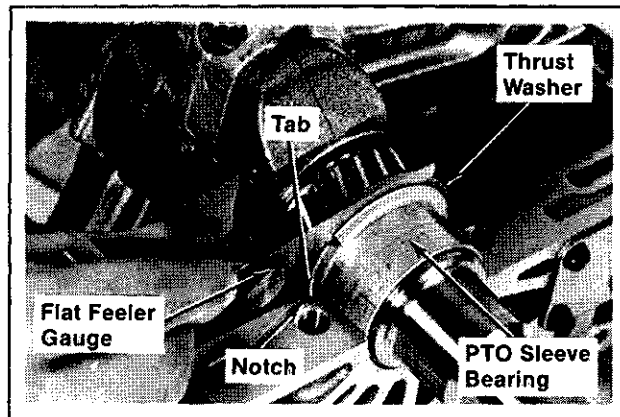
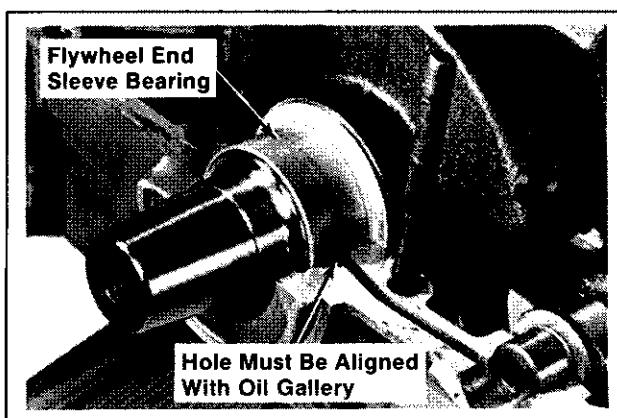

Figure 11-12. Position of PTO Bearing/Measuring Crankshaft End Play.
Figure 11-13. Position of Flywheel Bearing.
3. Install the crankshaft with connecting rods and bearings into crankcase. Make sure the locating tab of PTO end sleeve bearing is positioned in notch in crankcase (refer to Figure 11-12). The oil hole in flywheel end sleeve bearing must be aligned with the oil gallery in crankcase (refer to Figure 11-13).